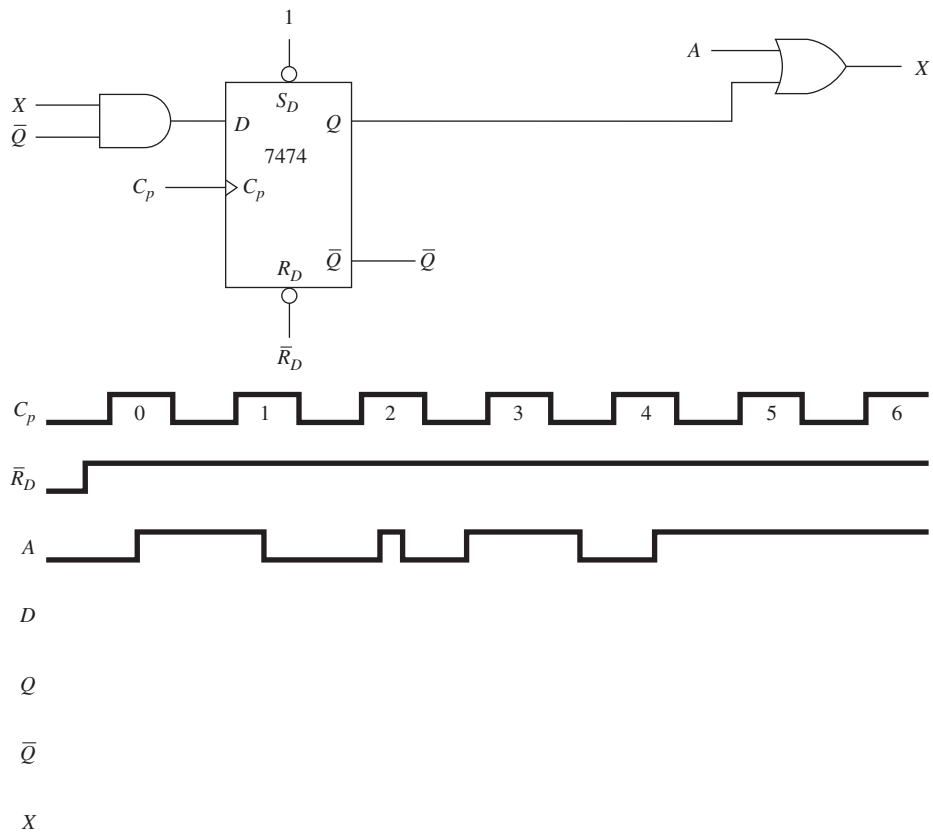

Figure P2
2. The waveforms shown in Figure P2 are applied to the inputs at A , $\overline{R_D}$, and C_p . Sketch the resultant waveforms at D , Q , \overline{Q} , and X .